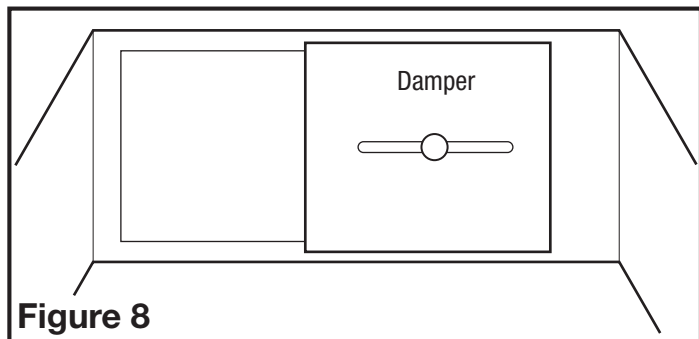

Figure 8
- 1a. **4" Inline Kits:** Locate the damper inside of the inlet housing and slide it to cover or uncover as much of the opening as is necessary to balance the system (Figure 8).